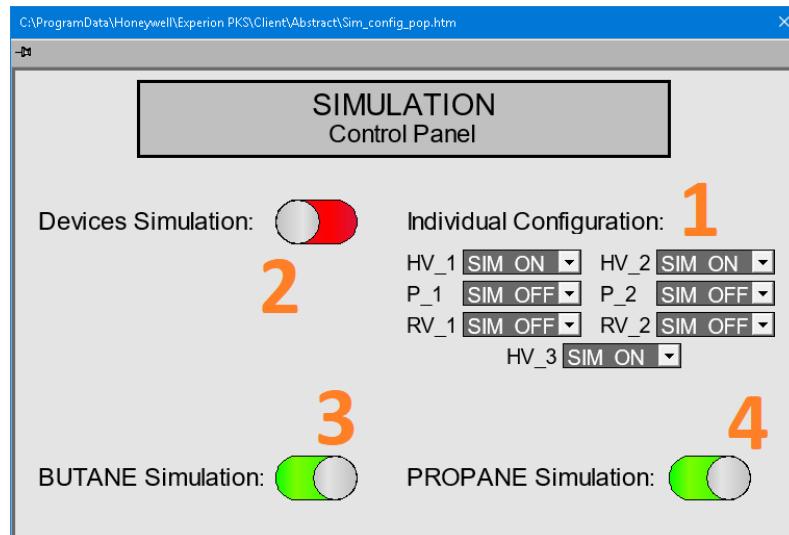

Figure 7 Simulation control panel (Source: Experion HS)
- The simulation configuration can be accessed by clicking on the button at the right side of the display. In the pop-up, the simulation variables of the devices can be activated individually (Indicator 1 in **Figure 7**) or they can be activated or deactivated all together (Indicator 2 in **Figure 3.84**). Clicking the lower buttons activates the butane and propane simulations (Indicators 3 and 4 in **Figure 7** respectively).